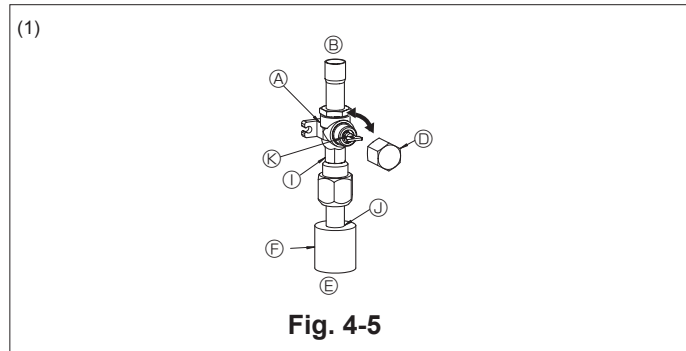
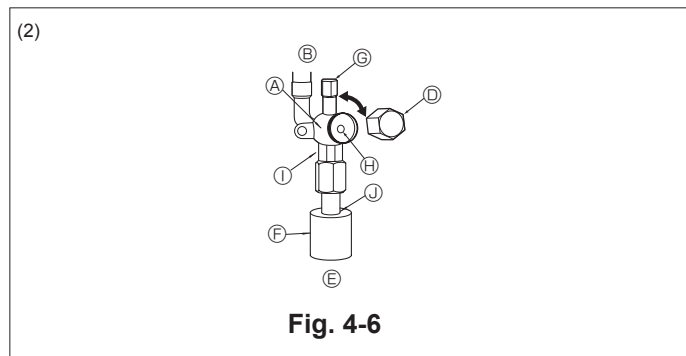

Fig. 4-5
Fig. 4-6
(1) Gas side (Fig. 4-5)
① Remove the cap, pull the handle toward you and rotate 1/4 turn in a counter-clockwise direction to open.
② Make sure that the stop valve is open completely, push in the handle and rotate the cap back to its original position.
(2) Liquid side (Fig. 4-6)
① Remove the cap and turn the valve rod counterclockwise as far as it will go with the use of a 4 mm hexagonal wrench. Stop turning when it hits the stopper. (ø6.35, 1/4 inch: Approximately 4.5 revolutions) (ø9.52, 3/8 inch: Approximately 10 revolutions)